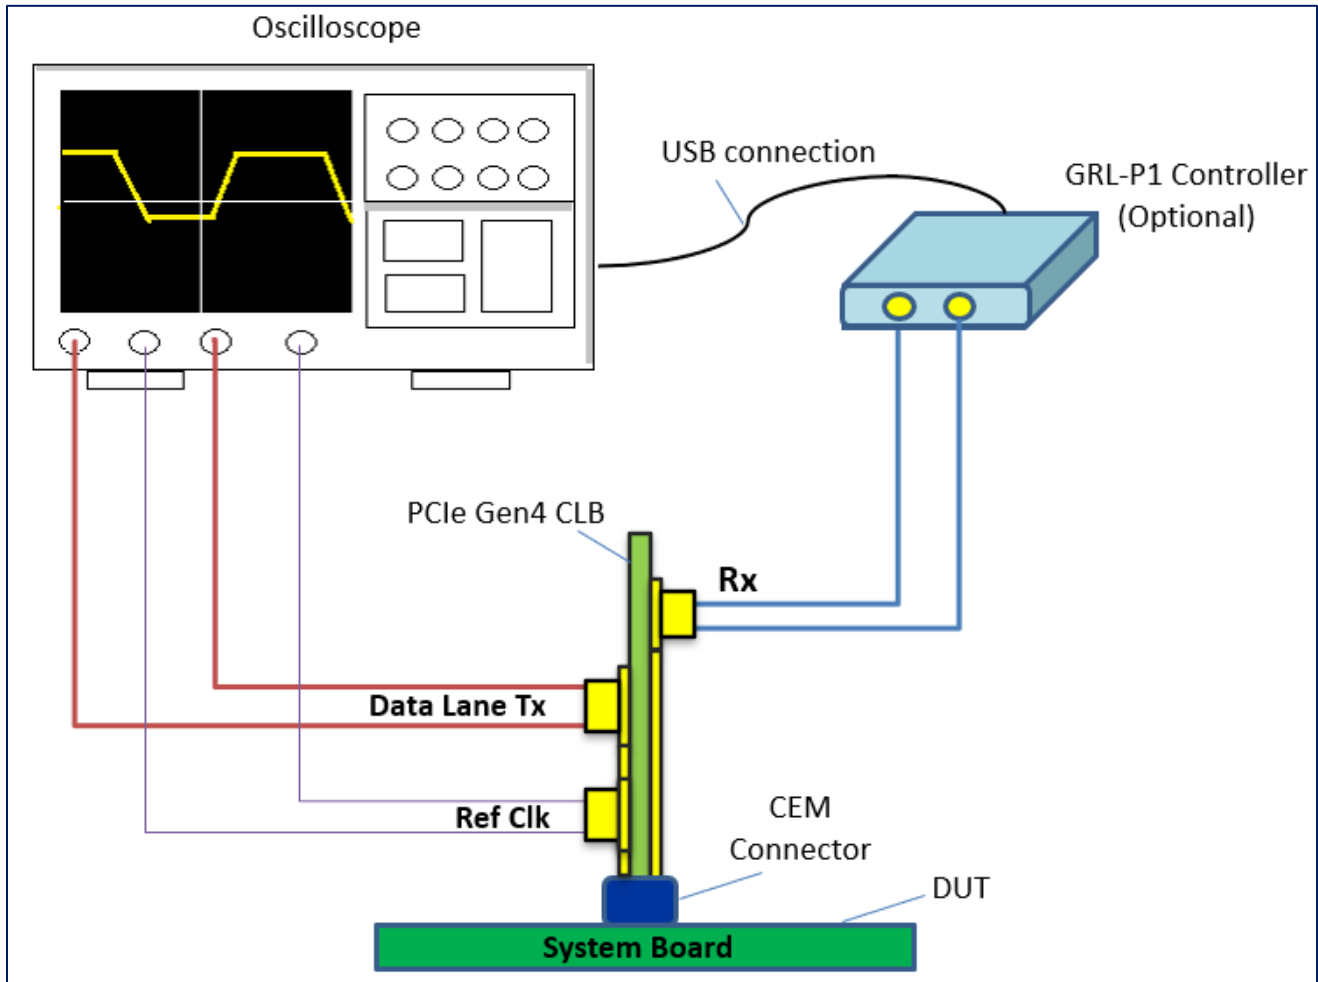

FIGURE 13. CONCEPTUAL PCIe GEN4 SYSTEM BOARD TX TEST SETUP DIAGRAM USING GRL-P1 (WITHOUT RF SWITCH)
1. Using the same connections from Figure 13, connect the Tx+ and Tx- Data Lanes from the CLB to the RF Switch Inputs.